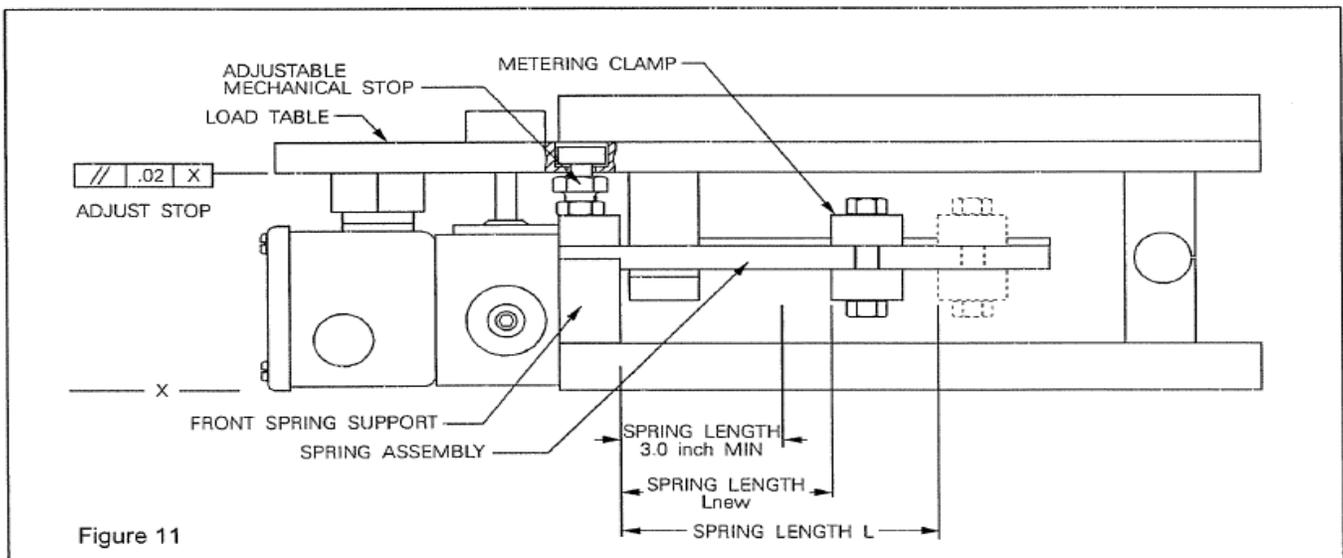

Figure 11
Loadcell recalibration involves changing the spring length which in effect changes the calibrated operating load capacity of the unit. This is accomplished by increasing or decreasing the spacing between the opposing faces of the front spring clamp and the metering blocks. (Refer to Figure 11)
3. Check that the load plate is parallel to the base plate ($\pm .020"$). This in effect removes the tare weight acting on the load plate. Depending on the load capacity of the units and the applied tare weight, the load table may require the use of a prying or clamping device to force the load table parallel to the base plate, and blocking it to maintain the position. (Refer to Figure 11 before proceeding with Step 3a or 3b).